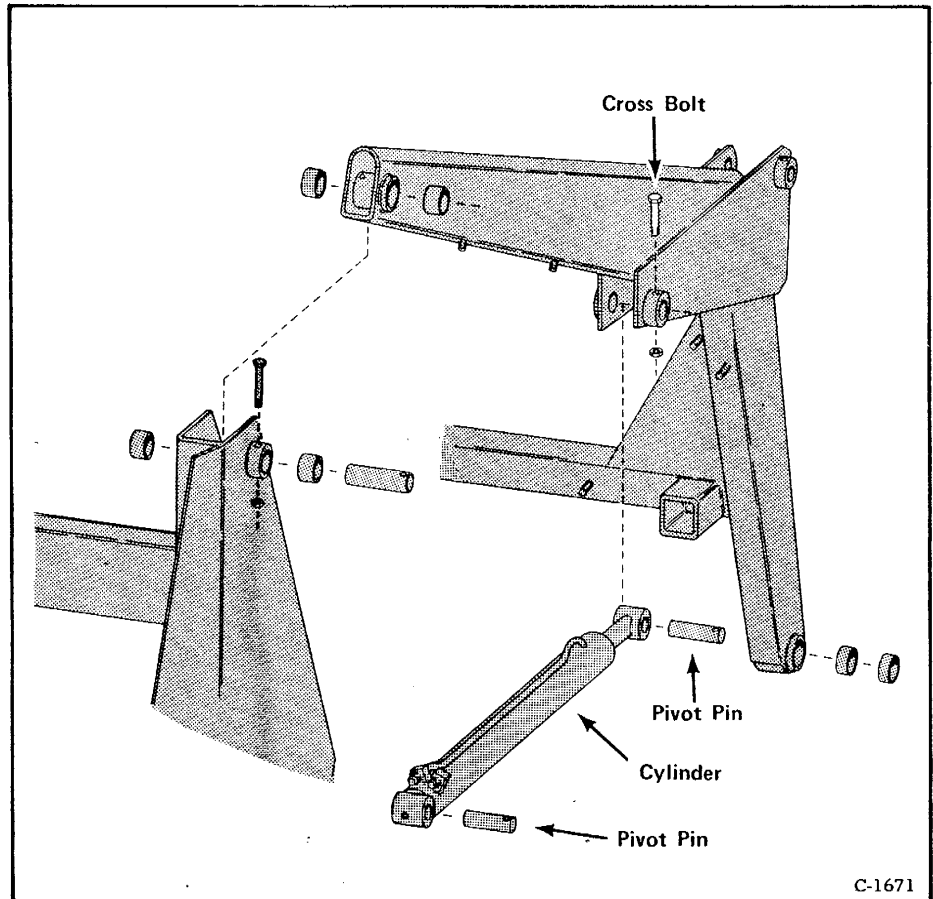

Fig. 2-19 Removing Cylinders
- (1) Activate the pedals to release pressure from the lines.
- (2) Remove the 3/8 cross bolts from the cylinder pivot ends (See Fig. 2-19).
- (3) Push the pivot pins out.
- (4) Disconnect the hoses from the cylinder. Put covers on hoses to keep dirt out of the system.